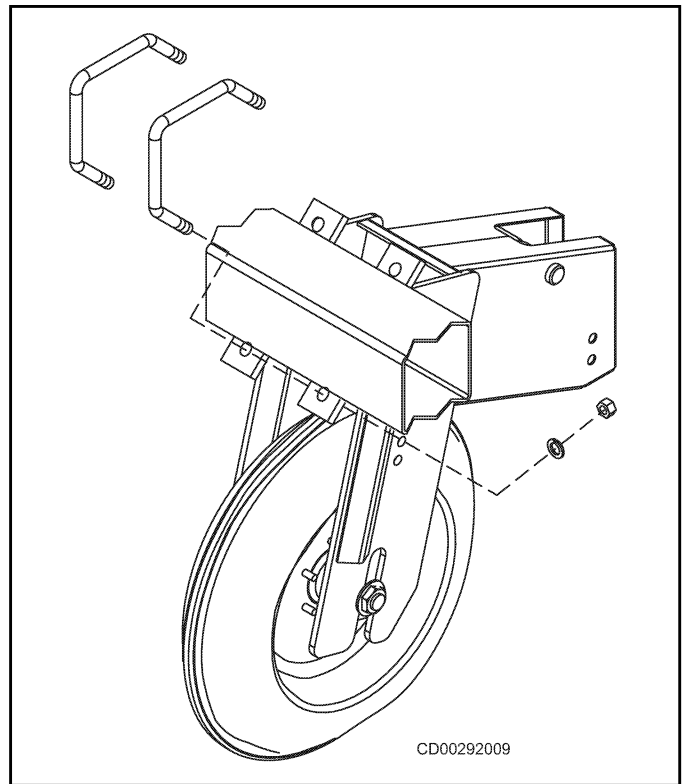

Figure 17 Mounting King Guide Strut
1. Fasten king guide strut to the toolbar, using 7/8" A-bolts, lock washers, and hex nuts as shown in Figure 17.